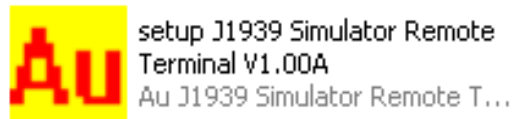

Figure A-1
1. Double click the "Setup J1939 Simulator Remote Terminal V2.00A" installation file, as shown in Figure A-1.